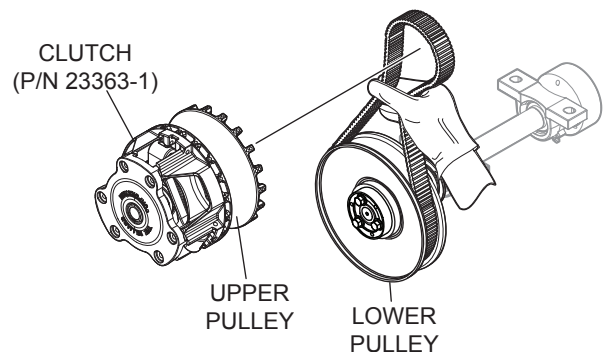

Figure 21. Upper Pulley Belt Installation
1. While holding the clutch, place free end of CVT belt into upper pulley grooves (Figure 21).